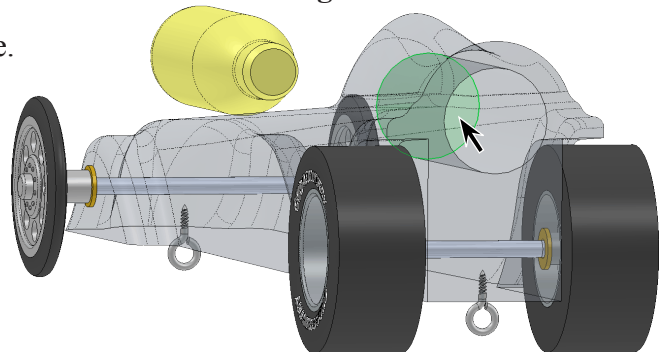

Fig. 22
Step 4. Click **bottom face of cartridge hole**, **Fig. 22**.